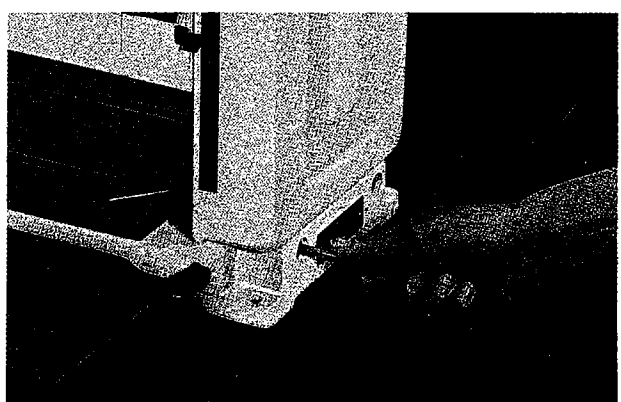

Fig.11
1. Use 3MM hex socket wrench to loosen two hex socket screws found on the roller table. See Fig. 11.